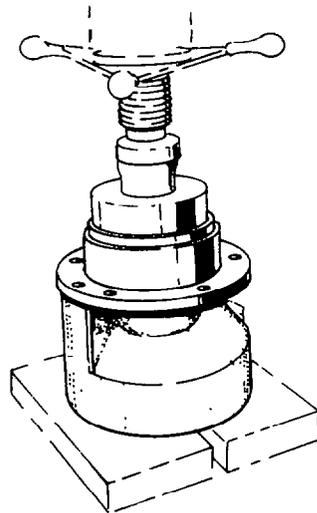

Fig. 304 — Installing Front Bearing Cup
- b. Using a hydraulic press, install the front bearing cup into the bevel pinion housing (see fig. 304).